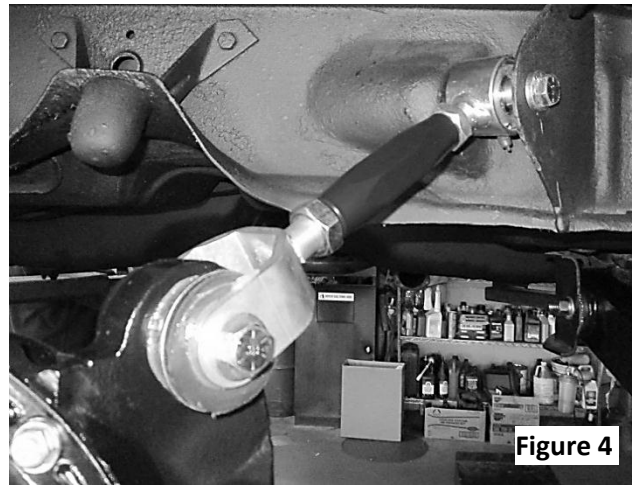

Figure 4
6. Position the trailing arm over the polyurethane bushing and thrust washer. Install rear bolt in the same direction as original and torque to 79 ft.-lbs. **Figure 4** shows the arm installed.